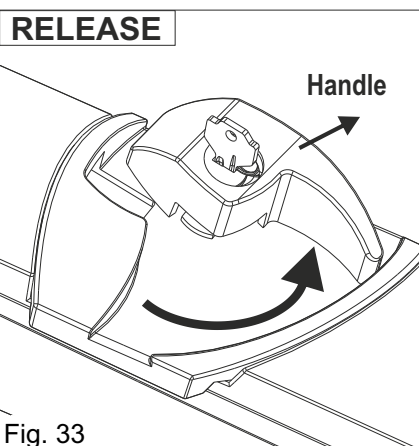

Fig. 33
- 3) Turn the handle counter-clockwise to release the operator (Fig. 33)